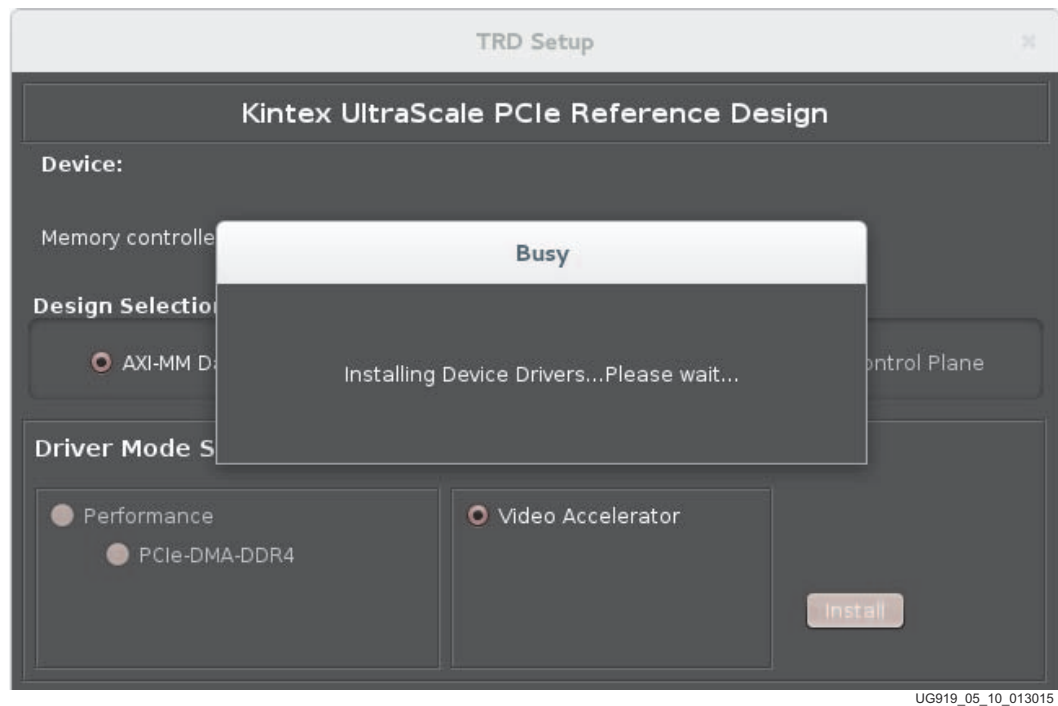

Figure 5-10: Installing Device Drivers for Video Accelerator Mode
6. Click **Install**. This installs the drivers for running the video accelerator design (shown in Figure 5-10).